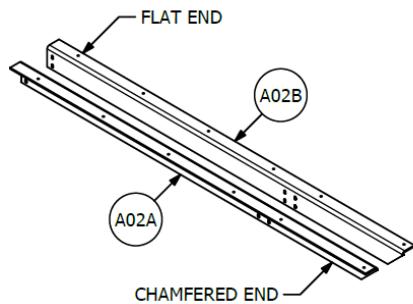
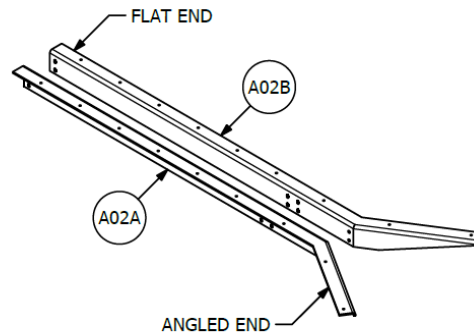

FIG. 05: TABLE RAIL PAIR, STRAIGHT
FIG. 06: TABLE RAIL PAIR, ANGLED
1. Layout Table Rails (A02A and A02B) side-by-side, so that you end up with 2 pairs. See Figure 05 for straight rail tables and Figure 06 for angled rail tables used with Power Drawer option.